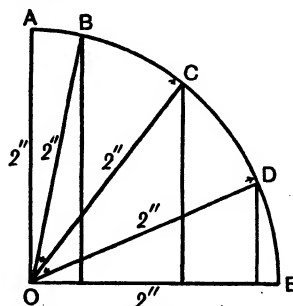

FIG. 93. FINDING SINES OF VARIOUS ANGLES
**III. Finding sines of angles.**—A similar method to that used for finding tangents can be adopted but variety is introduced by drawing figure 93 and working from it.